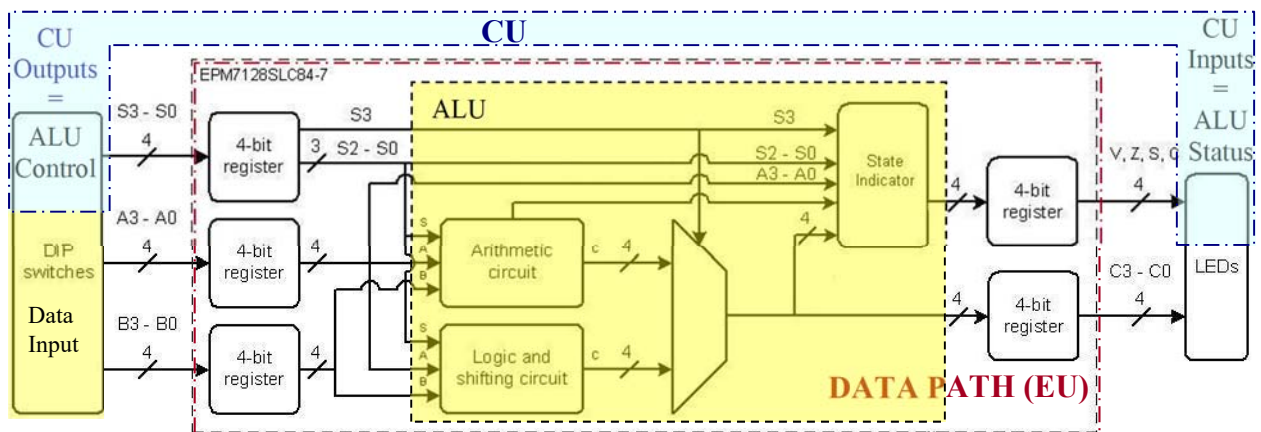

Figure 2: ALU datapath
Figure 2 presents the ALU datapath. For testing purposes, since CU (the light-blue block in Figure 2) is not designed and built in this lab, CU is replaced and emulated by 4 DIP switches for generating the ALU control inputs (S3 - S0) and 4 LEDs to display the ALU's state indicators (V,Z,S,O). Operands A and B are generated manually by 8 DIP switches, while the result C is displayed by other 4 LEDs.
Both inputs and outputs are stored in buffer registers (D flip-flops synchronized with the same clock), A, B, and C, as shown in Figure 2. To operate at the highest speed, the ALU datapath should be provided with both operands (A and B) and control bits (S3-S0) at every consecutive clock. To insure a correct operation of the datapath, the total delay introduced
- 6.7. Enter the ALU status circuit (called “State Indicator” in the diagram of Fig. 2) in a graphic file named “*state4bits.bdf*”. Repeat the necessary steps to create its symbol.
- 6.8. Combine your registers (A, B, C), arithmetic circuit (AC), logic and shift circuit (LSC) and the status indicator in a top-level graphic file (named Lab3top.bdf in Fig. 3.) to synthesize the ALU datapath as presented in Fig.2. (The top level diagram of a different ALU is presented as an example in Figure 10 - annexed at the end of this document).